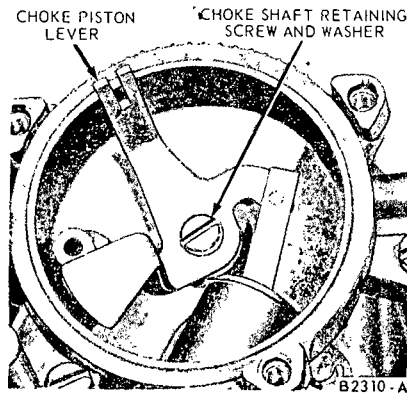

FIG. 14—Choke Shaft and Piston Lever
4. Remove the choke lever retaining screw and washer (Fig. 14). Remove the choke piston lever from the housing. If necessary, remove the pin securing the choke piston to the choke lever link. Remove the choke lever and fast idle cam lever from the choke housing.
3. Insert the choke piston into the choke housing. Position the choke thermostatic spring lever on the flange of the choke shaft, and install the retaining screw and washer (Fig. 14).